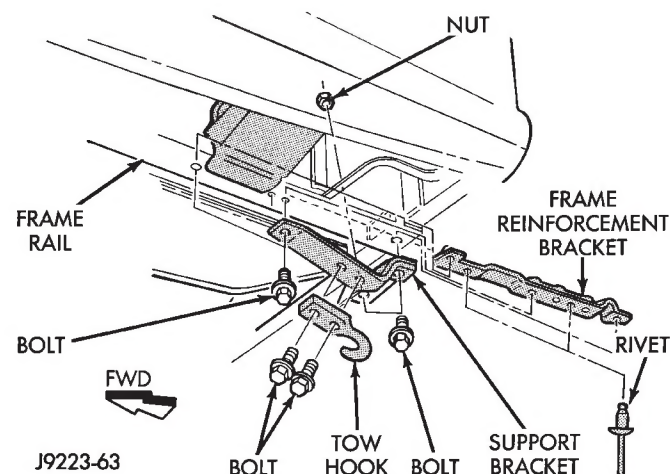

Fig. 16 Rear Tow Hook—XJ Vehicles
(1) Remove the bolts that attach tow hook bracket to the frame rail and reinforcement bracket (Fig. 16). **The reinforcement bracket is held on the**